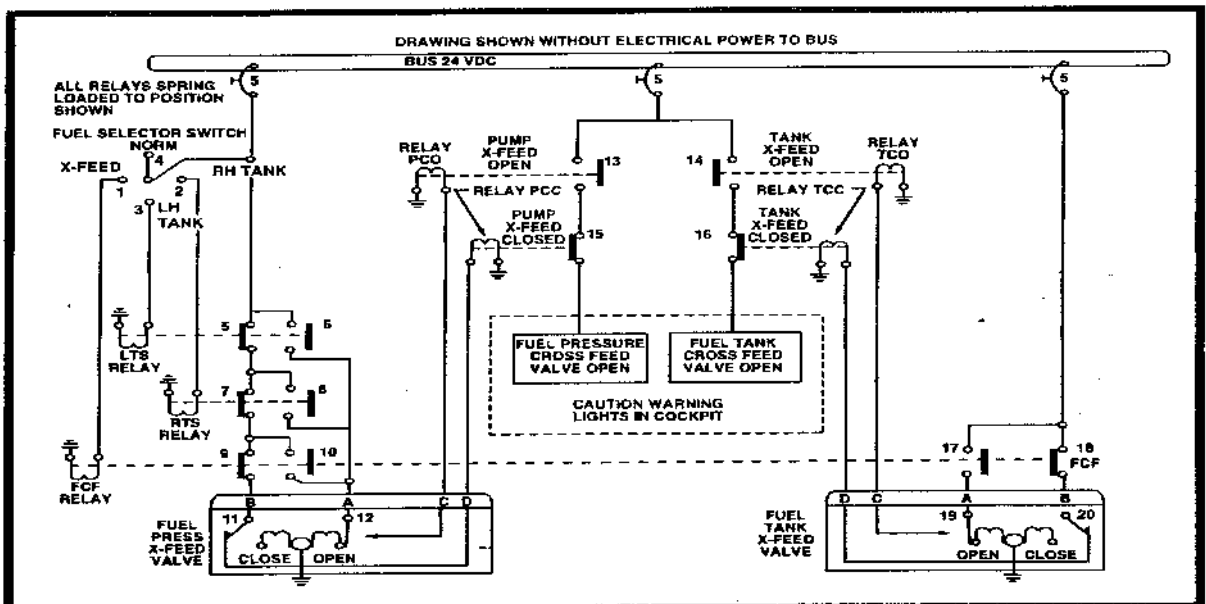

Fig. 9.19. Fuel System Circuit.
- 93. (Refer to figure 9.19) What will be the effect if the PCO relay fails to operate when the left-hand tank is selected?
- 94. (Refer to figure 9.19) The TCO relay will operate if 24-volts dc is applied to the bus and the fuel tank selector is in the
95. (Refer to figure 9.19) With power to the bus and the fuel selector switched to the right-hand tank, how many relays in the system are operating ?
96. (Refer to figure 9.19) When electrical power is applied to the bus, which relays are energized ?
97. (Refer to figure 9.19) Energize the circuit with the fuel tank selector switch selected to the left-hand position. Using the schematic, identify the switches that will change position.